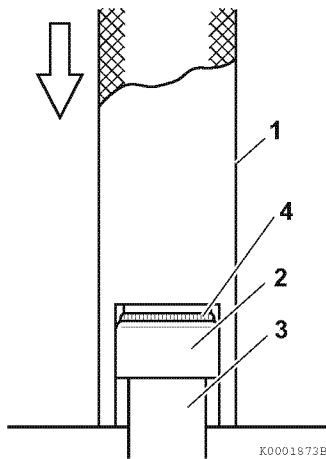

Figure 6-27
The exhaust valve stem seals are different than the intake valve stem seals and can be identified by either the paint marks on the outside of the seals or by the color of the seal spring (4, **Figure 6-27**). Ensure they are installed in the correct locations.
1. Oil the lip of the valve stem seal (2, **Figure 6-27**). Using the valve stem seal installation tool (1, **Figure 6-27**), install a new valve stem seal on each of the valve guides (3, **Figure 6-27**).